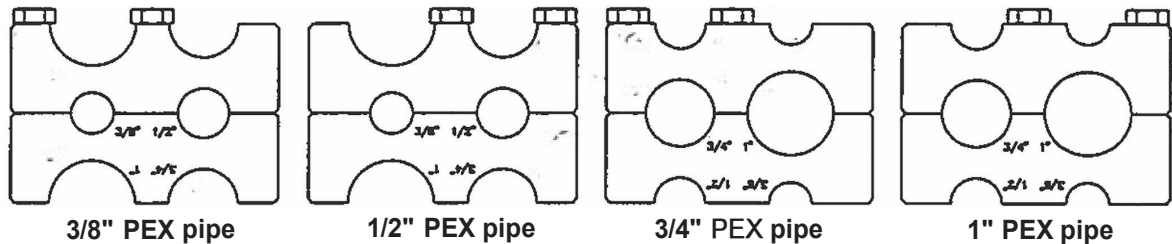

Figure 1
- Select the appropriate crimp cavity for the size pipe you are crimping (fig.1)
- Make sure bolts are correctly positioned on each side of the crimp cavity that you will be using to crimp with. (as shown in fig. 1)